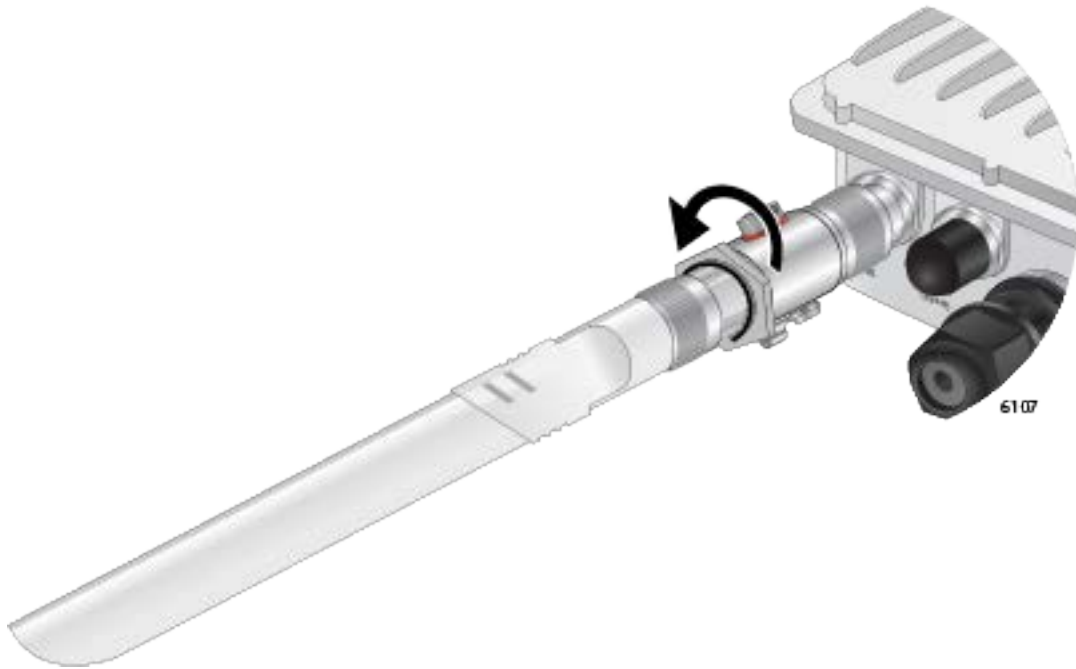

Figure 22. Tightening the Nut to Secure the Antenna
6. Tighten the nut against the antenna to secure the antenna. Refer to Figure 22.